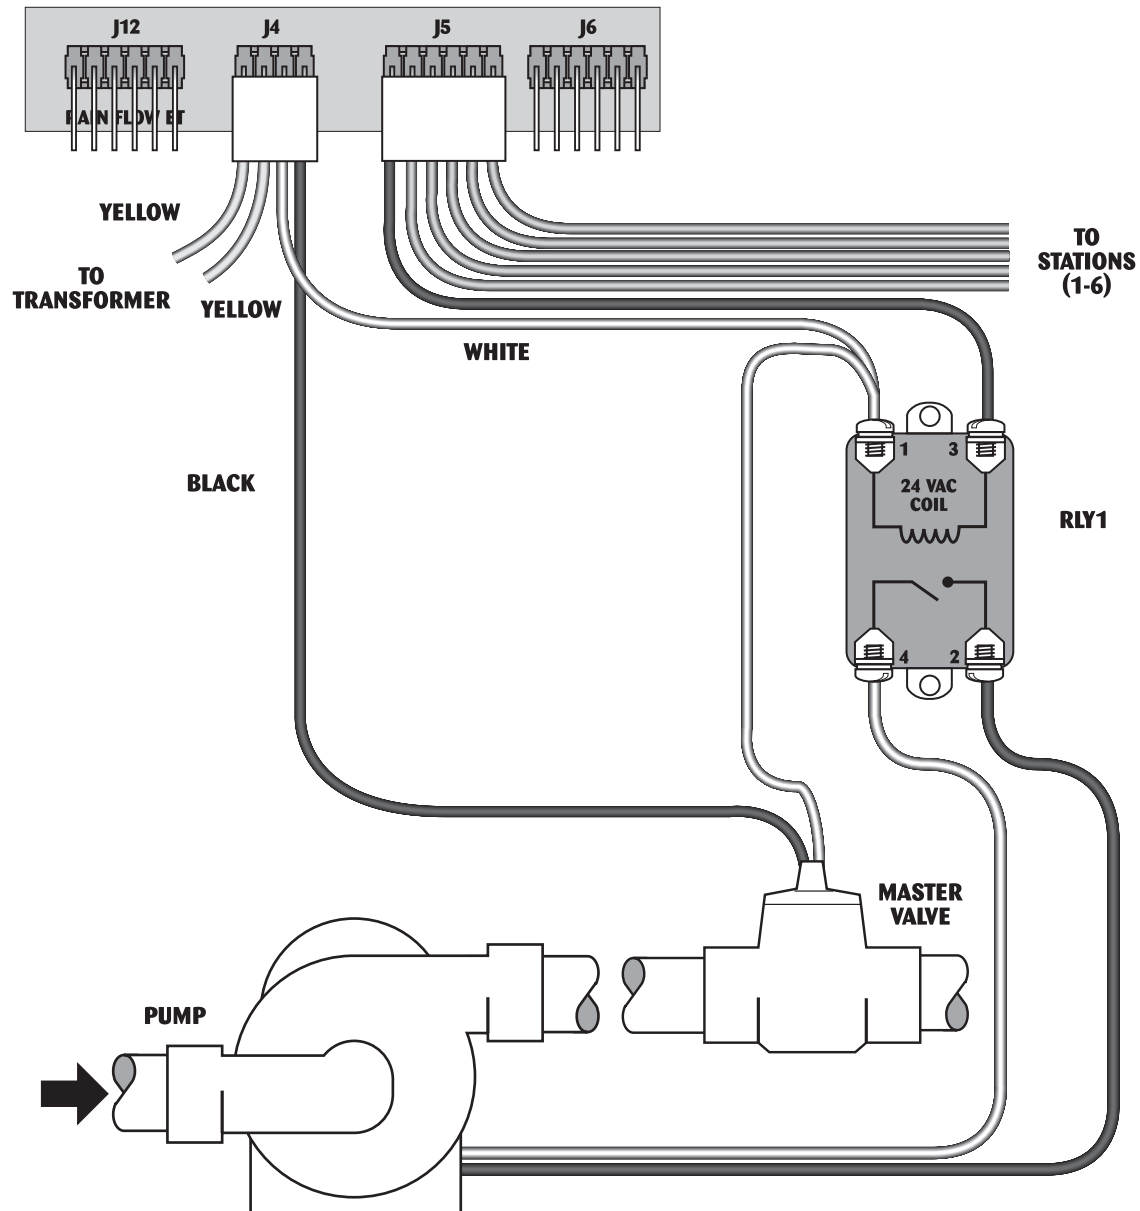

Figure 8 - Independent Control of Master Valve and Pump using Isolation Relay
If the Pump starter DOES NOT operate on 24 VAC or the combination of the Master Valve Solenoid and Pump starter running together uses more than 1 Ampere of current, you will need an isolation relay (RMIS part # RLY1 or equivalent) as depicted in Figure 8 - Independent Control of Master Valve and Pump using Isolation Relay. During configuration SETUP, select the Normally Closed (NC) Valve type for all programs which require the Master Valve and select Pump operation for all programs which require the pump.